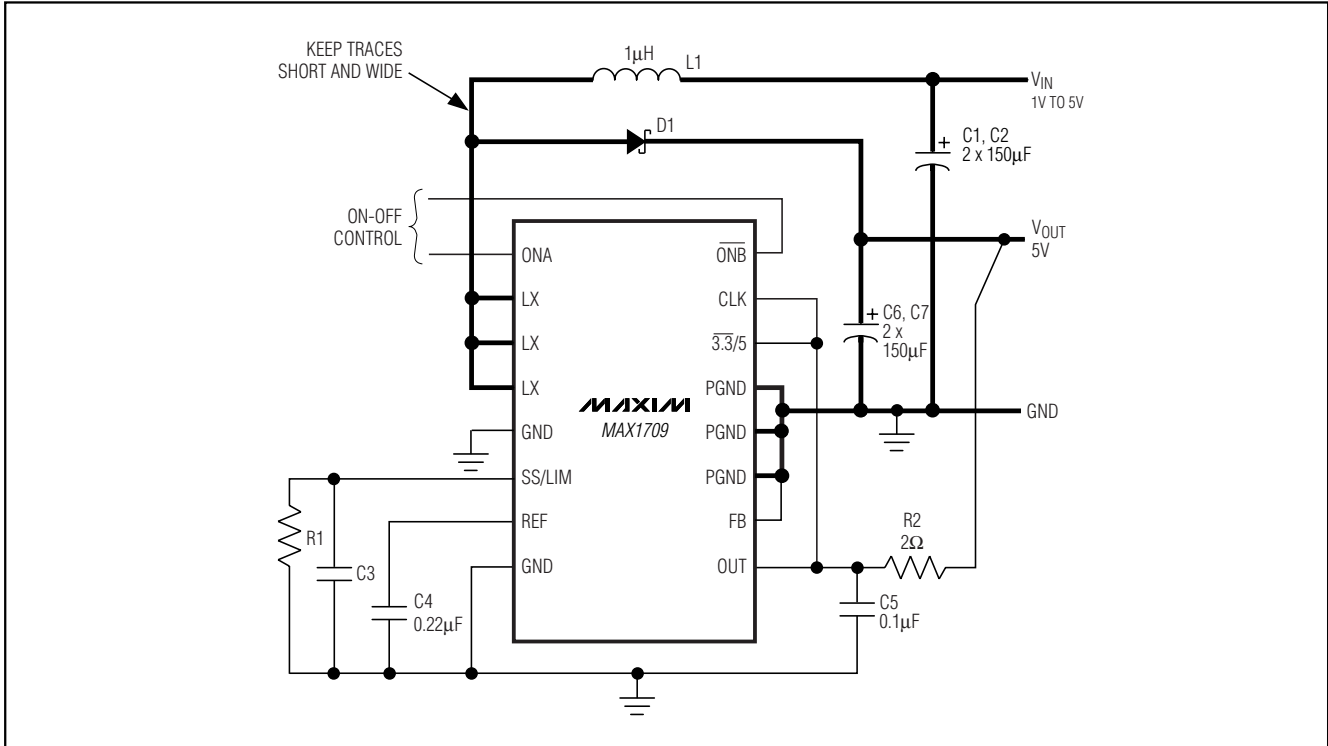
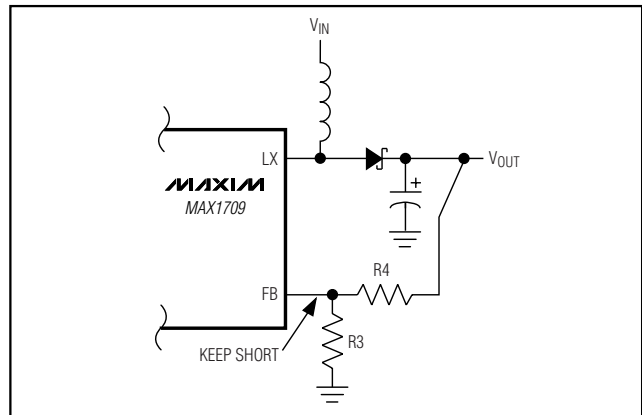

Figure 1. Standard Operating Circuit
Figure 4. Adjustable Output Voltage
**Note 4:** Startup is tested with Figure 1's circuit. Output current is measured when both the input and output voltages are applied.
(Circuit of Figure 1,  $T_A = +25^\circ\text{C}$ , unless otherwise noted.)
The MAX1709 features Dual Mode™ operation. When FB is connected to ground, the MAX1709 generates a fixed output voltage of either +3.3V or +5V, depending on the logic applied to the 3.3/5 input (Figure 1). The output can be configured for other voltages, using two external resistors as shown in Figure 4. To set the output voltage externally, choose an R3 value that is large enough to minimize load at the output but small enough to minimize errors due to leakage and the time constant to FB. A value of  $R4 \leq 50\text{k}\Omega$  is required.
To improve efficiency or reduce inductor size at reduced load currents, the current limit can be reduced from its nominal value (see *Electrical Characteristics*). A resistor (R1 in Figure 1) between SS/LIM and ground reduces the current limit as follows:
capacitor to GND and a 2Ω series resistor ( $R_2$ , as shown in Figure 1).
uration. Connect PGND, the input bypass capacitor ground lead, and the output filter capacitor ground lead to a single point (star ground configuration). In addition, minimize trace lengths to reduce stray capacitance and trace resistance, especially from the LX pins to the catch diode (D1) and output capacitors (C6 and C7) to PGND pins. If an external resistor-divider is used to set the output voltage (Figure 4), the trace from FB to the resistors must be extremely short and must be shielded from switching signals, such as CLK or LX. Refer to a layout example in the MAX1709EVKIT data sheet.